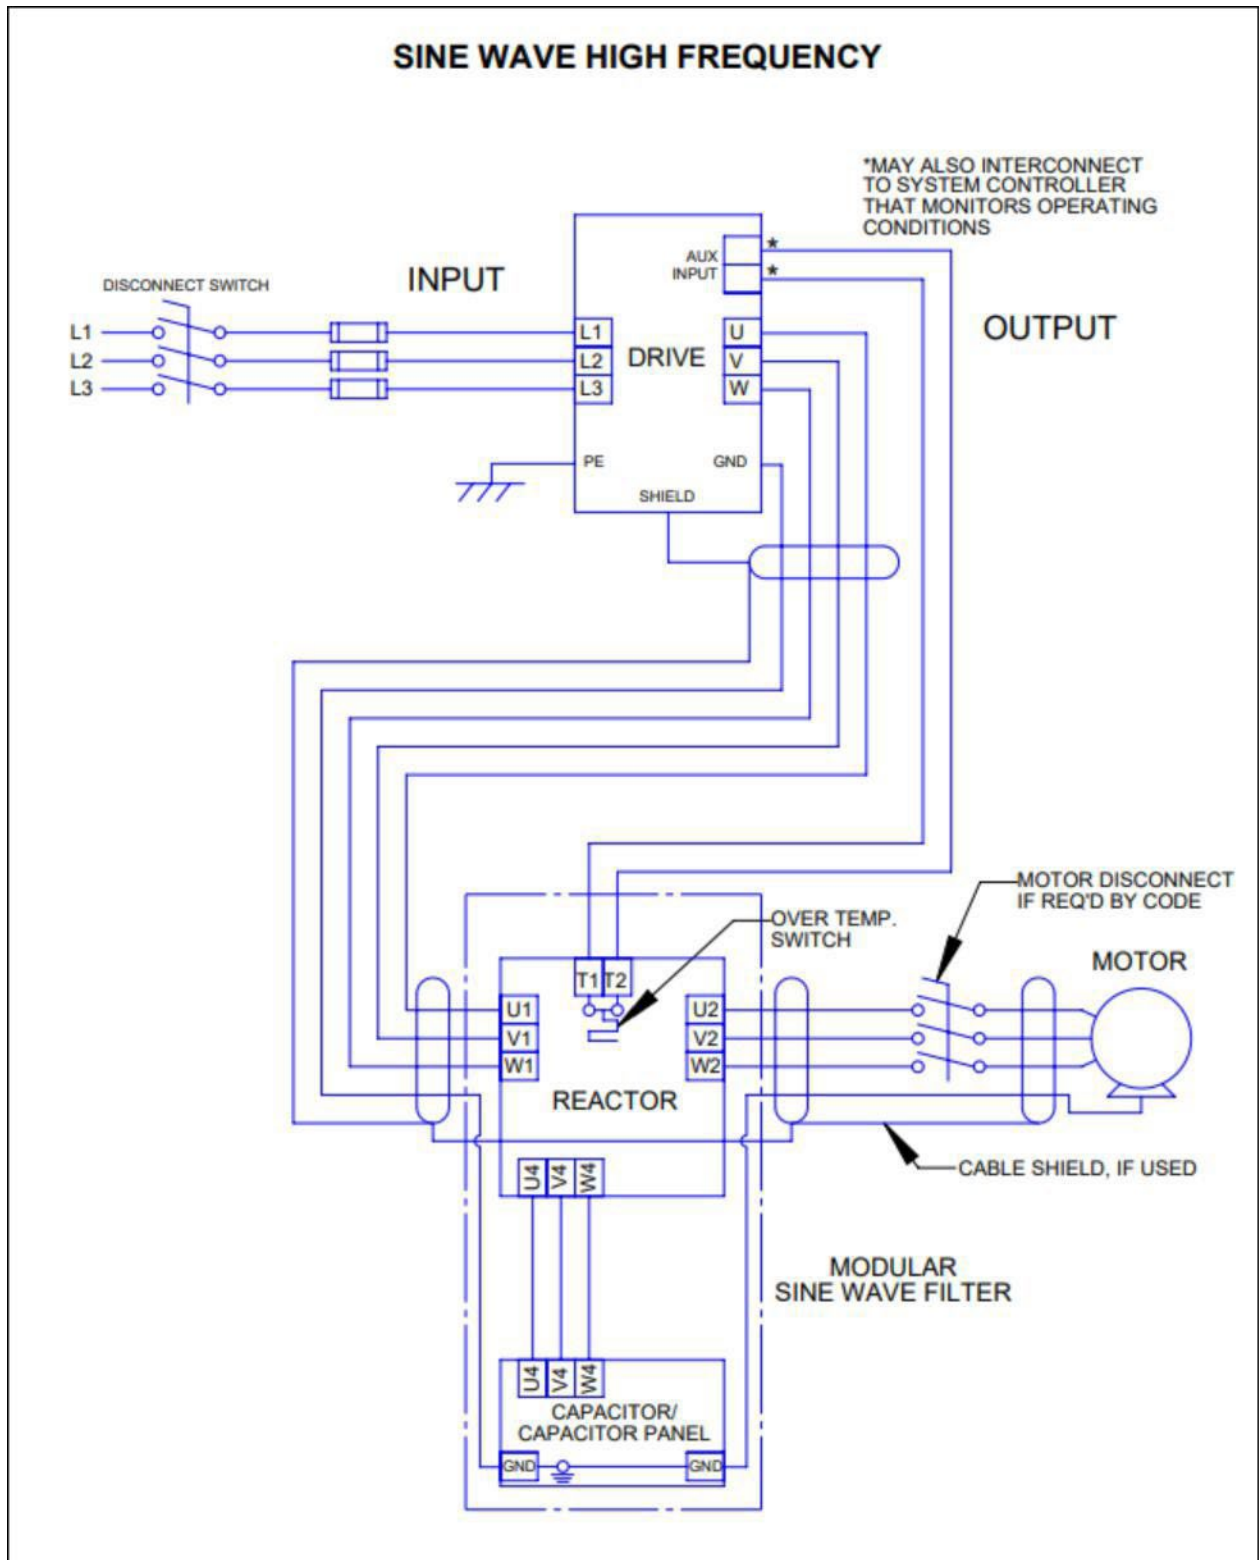

Figure 5-1: Modular Interconnection
- For panel mounted filter applications, interconnection between the filter, its power source, the cap-panels, and the drive is shown in Figure 5-1: Modular Interconnection (p16).